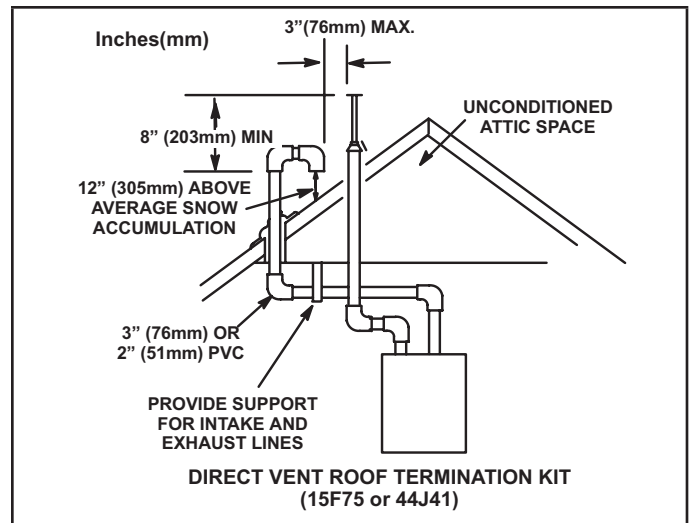

FIGURE 27
Intake and exhaust pipes may be routed either horizontally through an outside wall or vertically through the roof. In attic or closet installations, vertical termination through the roof is preferred. FIGURE 27 through FIGURE 34 shows typical terminations.
- 3 - On roof terminations, the intake piping should terminate straight down using two 90° elbows (See FIGURE 27).